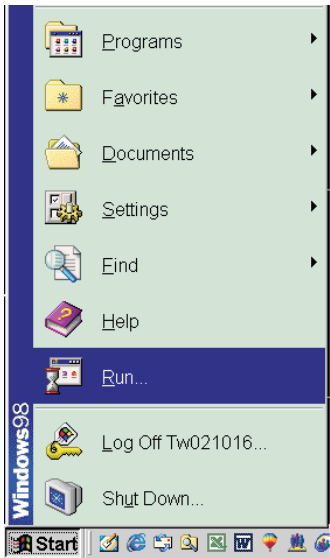

Fig. 5
- 2. Click Start , choose Run at start menu of Windows as shown In Fig. 5.